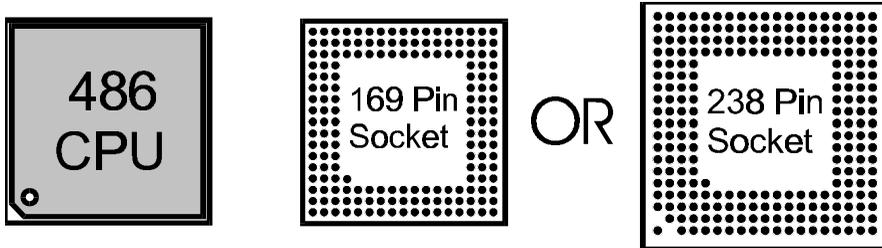

Figure 2: 486 CPU socket (168 pins) beside empty OverDrive socket (169 or 237/238 pins).
- ◆ For some 486 computers, the 486 CPU is permanently soldered to the motherboard, and an OverDrive socket is available. In this case you do not remove the original CPU, and you install the upgrade in the OverDrive socket. See Figures 2, 3, and 4.